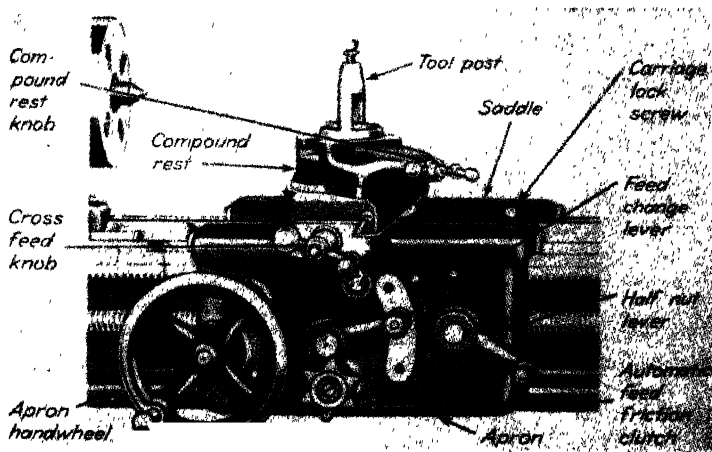

Fig. 10-14. Parts of the carriage. (South Bend Lathe Works)
**Half-nut Lever.** Used to engage the lead screw when cutting threads. Although there is no thread chaser or thread dial indicator shown in the illustration (Fig. 10-14) many lathes are equipped with such a device. It is of great help in cutting threads. It is explained later in this section.